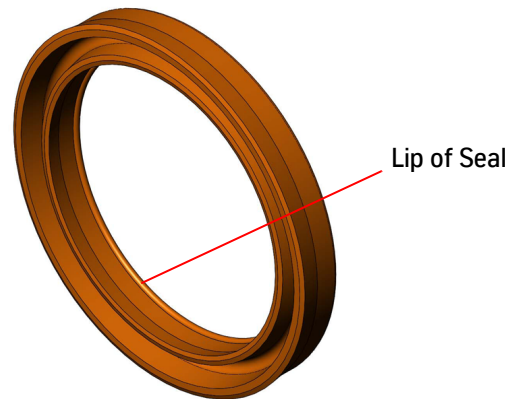

Figure 29 - Seal Orientation
2. Place the seal on top of the plunger. Make sure the lip of the seal faces down toward the pressure side. See Figure 29.